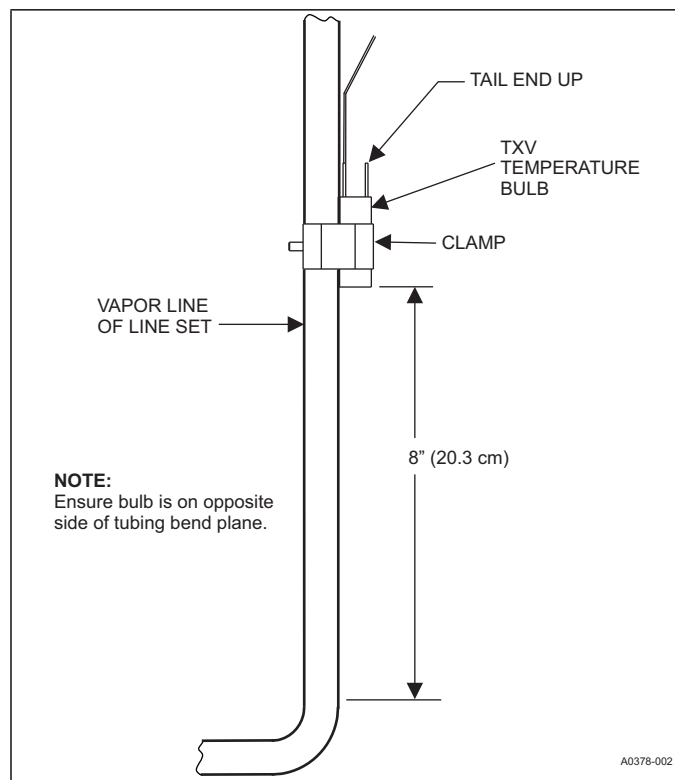

FIGURE 15: Vertical Temperature Bulb Orientation
- b. If bulb installation is made on a vertical run, ensure that the bulb is a minimum of 8 inches (20.3 cm) away from elbow coming out of the coil. Position the bulb with the tail of the bulb at the top, so that the bulb acts as a reservoir. See Figure 15.